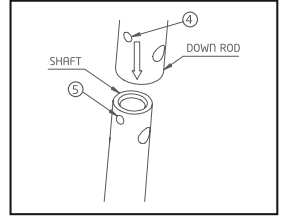

Figure 3
Insert down rod over shaft, align safety screw hole ④ on down rod with tapped hole ⑤ on shaft. See Figure 3